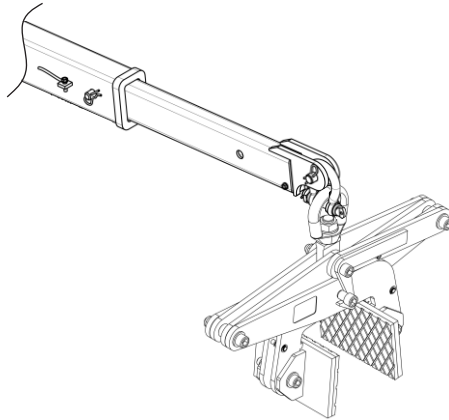

Figure 1.1
**Step 1:** Hook the Scissor Clamp to a forklift boom (Figure 1.1)